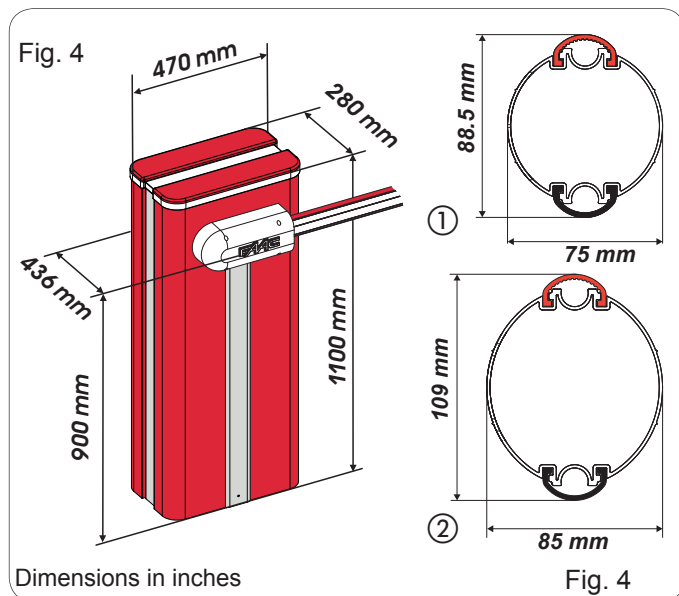

Fig. 4
For barrier dimensions, refer to Fig. 4. The cover size is the same for both models, while the arm dimensions differ as shown in detail at ① (bar S) and ② (bar L)
Table 1 refers to the balance spring for **“S” arms** (Fig. 4 ref. ①) with lengths equal to or shorter than 17.4 ft (5.3m)
Table 2 refers to the balance spring for **“L” arms** (Fig. 4 ref. ②) with lengths equal to or longer than 17.4 ft (5 m)